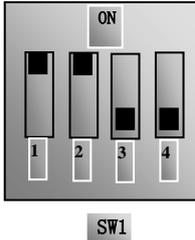

Fig 5-4
(4) There is a red two-digit coding switch SW1 near the control terminal block of E600 inverter, as shown in Figure 5-4. The function of coding switch is to select the voltage signal (0~5V/0~10V) or current signal(0~20mA). In actual application, select the analog input channel through F203. Turn